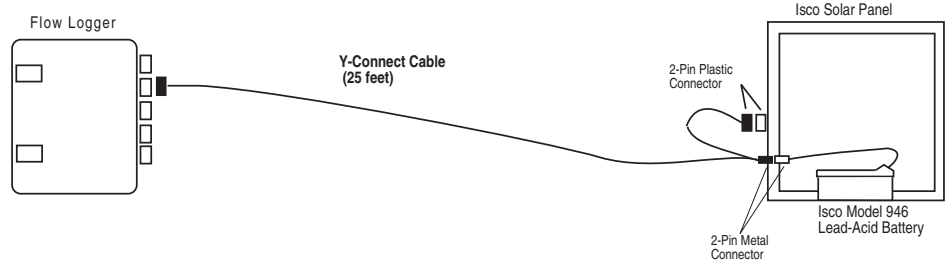
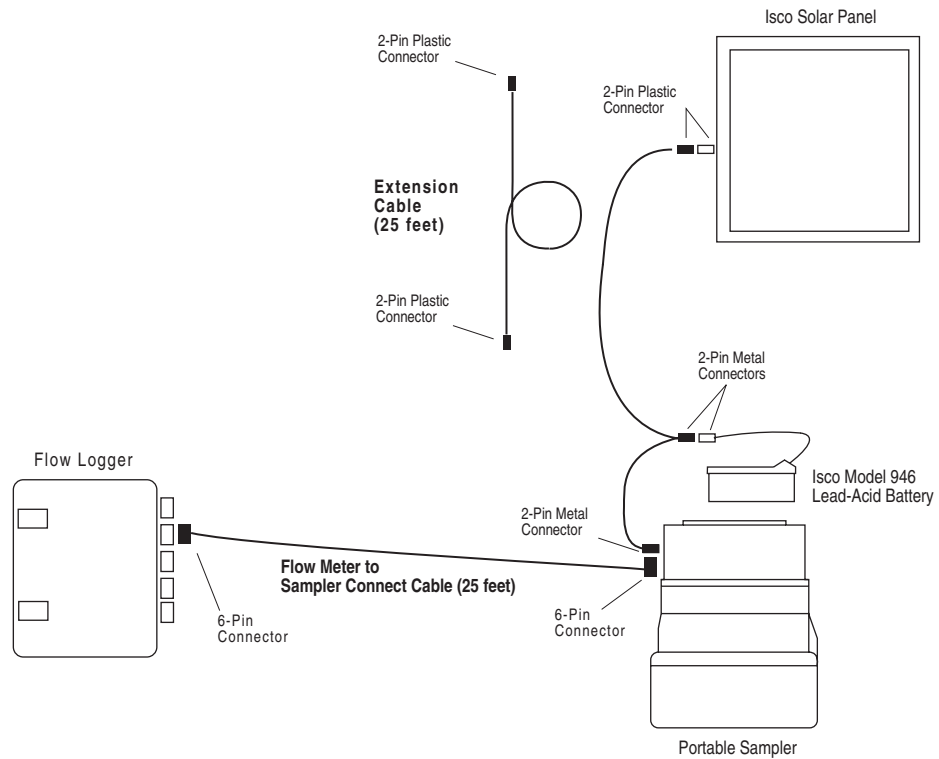

Figure 2-1 Connecting Solar Panels to the 4110
Figure 2-2 Connecting a Solar Panel and a Sampler to the 4110
- Isco 946 Lead-Acid Battery recharged on-site with an Isco 954 Solar Panel. The battery mounts on the solar panel; it does not fit in the 4110's battery compartment (see Figure 2-1 and Figure 2-2).